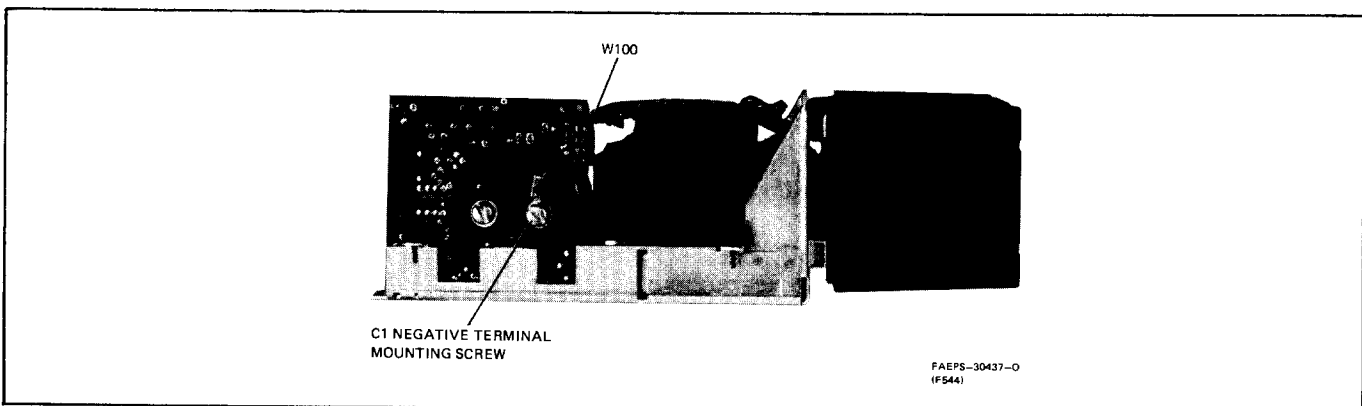

Figure 4. Side View of A TPN1155A or TPN1155B Power Supply
- Step 33. Refer to Figure 4. Turn the power supply so that the regulator board is up. Remove the C1 negative terminal mounting screw. Route the free end of W100 over to the negative terminal and fasten it in place with the loose mounting screw.